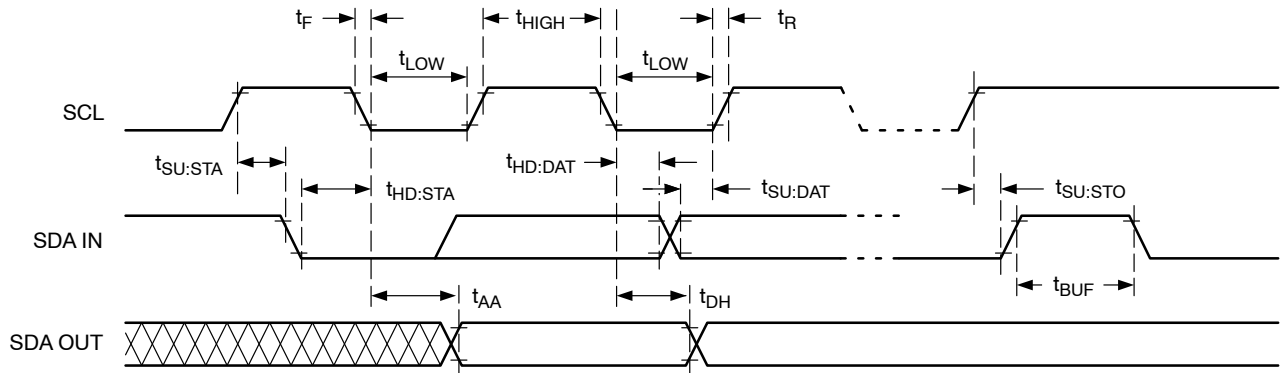

**Figure 3. Slave Address Bits**
The Master addresses a Slave by creating a START condition and then broadcasting an 8-bit Slave address. For the NV24C64MUW, the first four bits of the Slave address are set to 1010 (Ah); the next three bits, A2, A1 and A0, must match the logic state of the similarly named input pins. The R/W bit tells the Slave whether the Master intends to read (1) or write (0) data (Figure 3). The device in WLCSP with 4 bumps responds only to address combination A2A1A0 = 000.